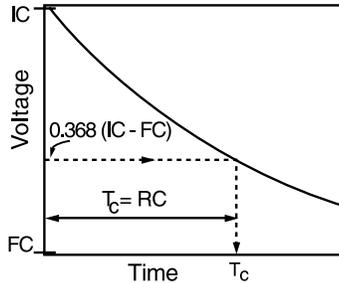

Figure 3
b. Adjust the scope's horizontal and vertical position knobs and the trigger slope and level so that the waveform is completely visible, but fills the scope face. Line up the start of the exponential waveform with the vertical grid line on the left edge of the scope face. Set the horizontal scale (time base) so the trace looks something like Fig. 3. It is not necessary that you be able to see $5 T_C$; in fact, it is good practice to expand the display so that at least 50% of the scope face is used for measurements (as shown in Fig. 3).
divisions up from the bottom of the CRT (Fig. 3). When the exponential has decayed to 36.8% of the difference between the initial voltage and the final voltage, one time constant has elapsed. Measure this time T_c .